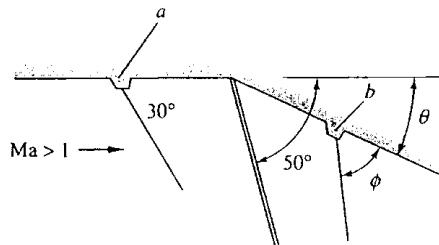

Fig. P9.129
**9.129** Air flows at supersonic speed toward a compression ramp, as in Fig. P9.129. A scratch on the wall at *a* creates a wave of  $30^\circ$  angle, while the oblique shock has a  $50^\circ$  angle. What is (a) the ramp angle  $\theta$ ; and (b) the wave angle  $\phi$  caused by a scratch at *b*?
**Solution:** Referring to Fig. P9.129, we already know that  $Ma_1 = 2.0$  because the Mach wave angle at point  $a$  is  $30^\circ$ . Now we know the Mach wave angle inside the shock: